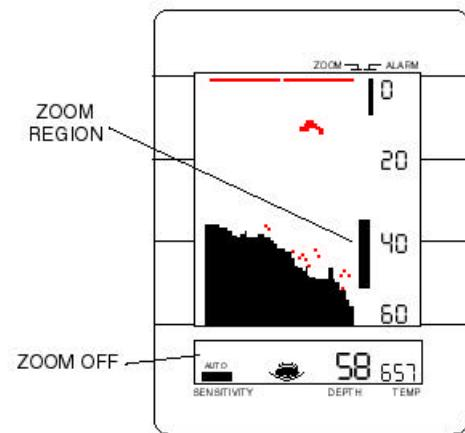

FIGURE 17
First position the Zoom Region (See Figure 17) next to the area that you want to expand by pressing the Range up or down button. Next, by pressing the Zoom button the zoom will be activated. You will notice that the
word Zoom appears in the lower part of the display, indicating that the Zoom is on. You will also notice that the entire screen has been changed to show an expanded view of the area from the top of the Zoom Range to the bottom of the Zoom Range. The LCR'S Total Screen Update feature allows you to zoom in on an area even after you have passed over it. Figure 17 shows two screens, one with Zoom off and one after turning Zoom on.
- B. The Zoom Range indication at the right of the display can be used for depth reference. For example in Figure 17 the Zoom Range is set between 33 feet and 46 feet. This means that when the Zoom is activated that you are looking at an expanded view of the area from 33 feet to 48 feet.